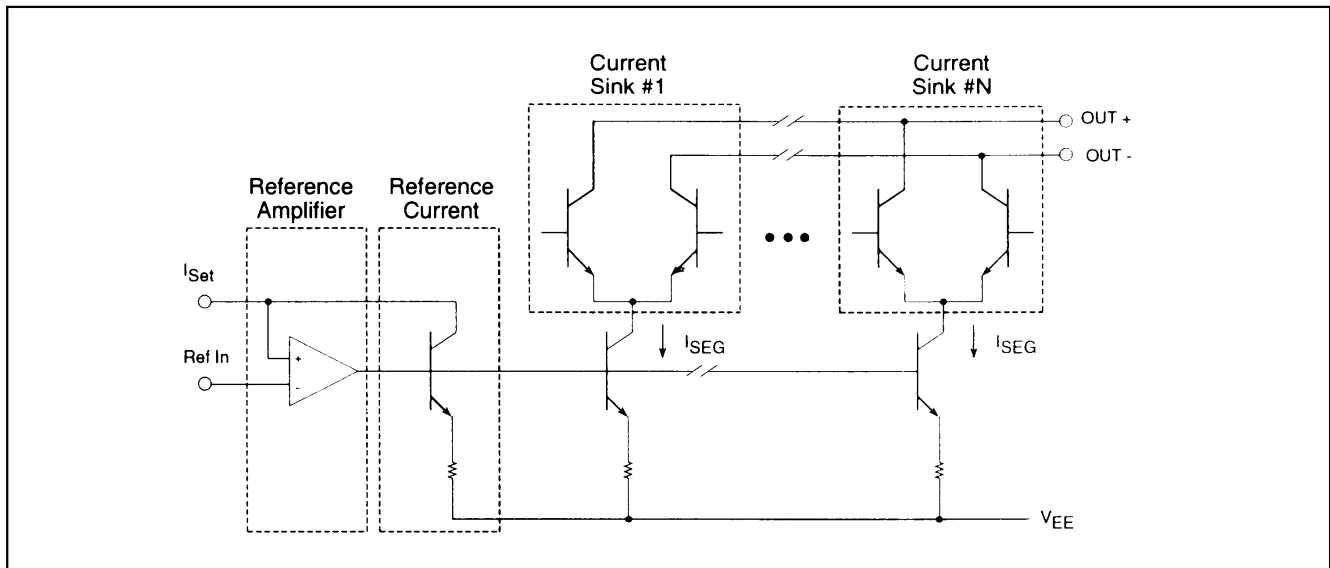

Figure 3. Reference Buffer and DAC Output Circuit
- See Figure 3 for details on Ref Buffer.
The buffer amplifier's output is the reference for the current sinks. The amplifier feedback loop is connected around one of the current sinks to achieve better accuracy. (See Figure 3.)